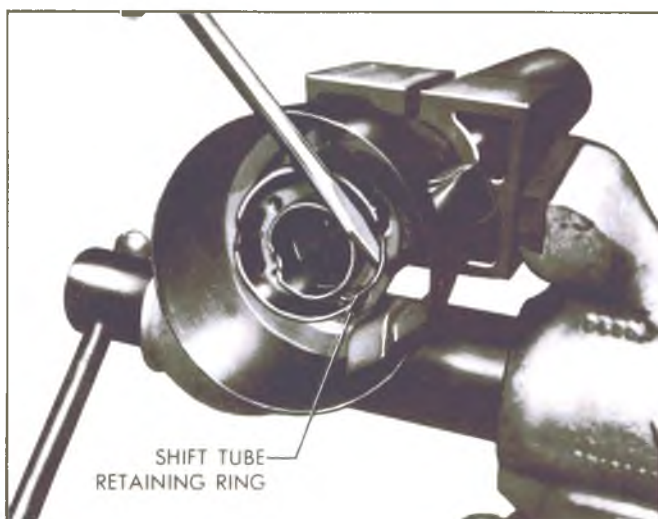

Fig. 95—Removing Shift Tube Retaining Ring
11. Remove the shift tube retaining ring with a screw driver (fig. 95). Remove the thrust washer.